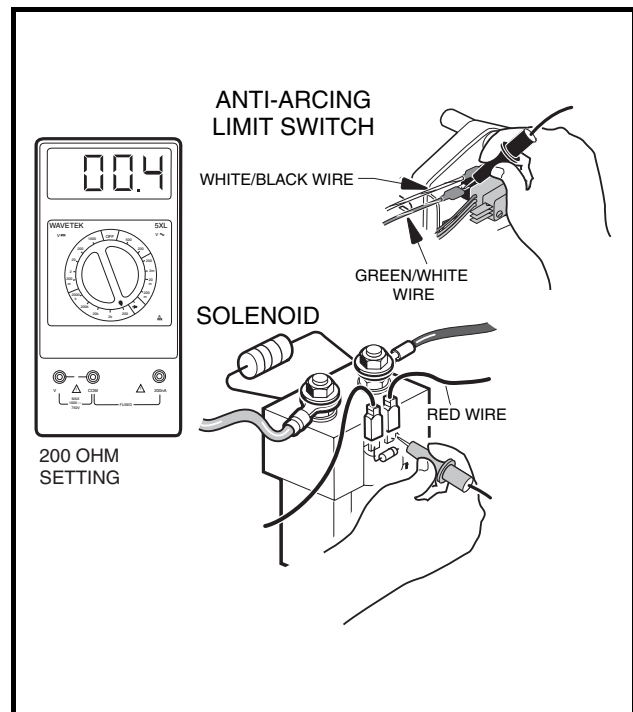

Figure 11-13 Forward/Reverse Anti-Arcing Limit Switch Test
2. Place the red (+) probe of the multimeter (set for 200 ohms) on the small activating coil terminal of the solenoid that has the red wire connected. Place the black (–) probe on the no. 1 anti-arcing limit switch at the normally open (NO) terminal (**Figure 11-13, Page 11-17**).